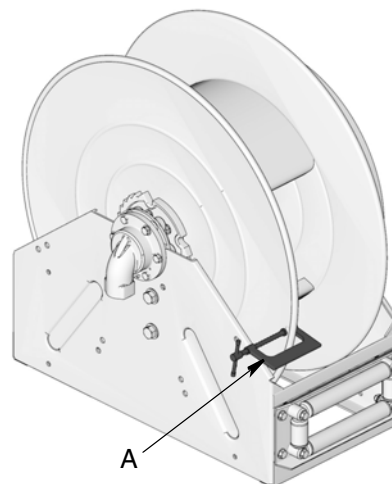

FIG. 66
13. Securely attach a c-clamp (A) to the reel spool as shown in FIG. 66 to help prevent the reel from unintentionally becoming unlatched and spinning freely.